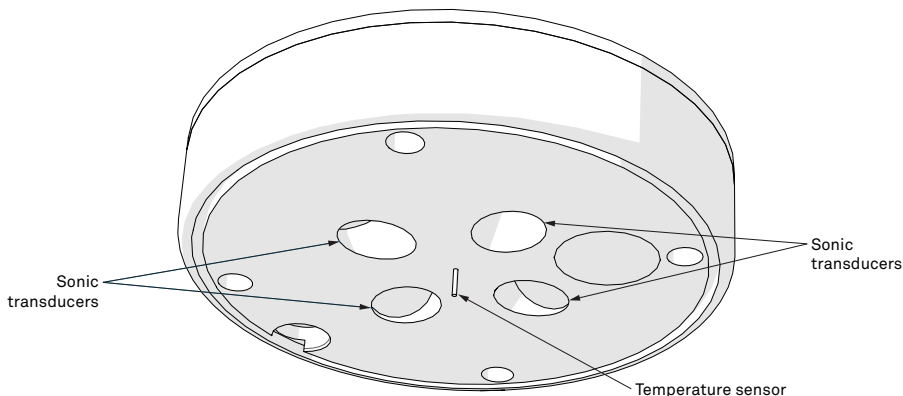

Figure 6 Temperature needle and sonic transducers
1. Make sure nothing is obscuring the temperature sensor or the sonic transducers shown in Figure 6 (cobwebs, leaves, wasp nests, etc.).
- **DO NOT** touch the temperature sensor needle (Figure 6).
- Avoid more than light pressure on the sonic transducers (Figure 6).
**NOTE:** Do not allow water to enter the ultrasonic sensors (Figure 6). Water may corrode the metal parts inside the sensors and ruin them. Do not touch the temperature sensor when cleaning because it is very delicate and can be damaged if pushed into the ATMOS 22 body.